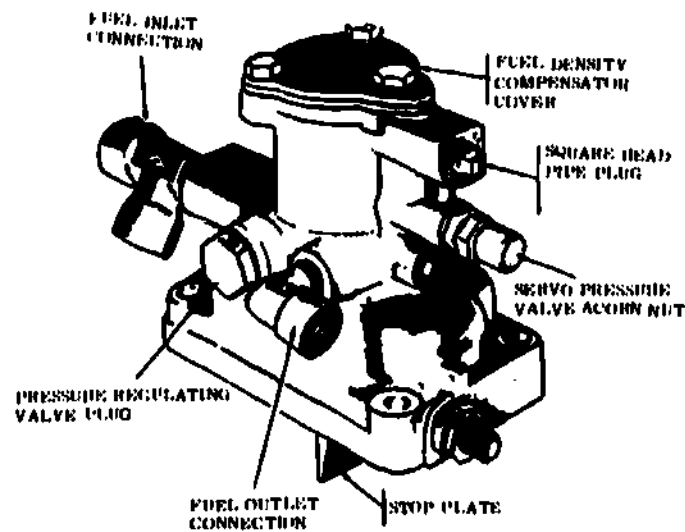

Fig 3-19. Fuel density compensator.
a. Purpose (fig 3-19). The fuel density compensator automatically adjusts the high-speed stop for the type of fuel that is being used. It is mounted on top of the governor. The compensator has a wedge-shaped stop plate that replaces the maximum speed adjustable stop screw. A servopiston fitted in a cylinder senses the differences in the fuel and then moves the wedge stop plate up or down, regulating the maximum travel of the accelerator linkage.